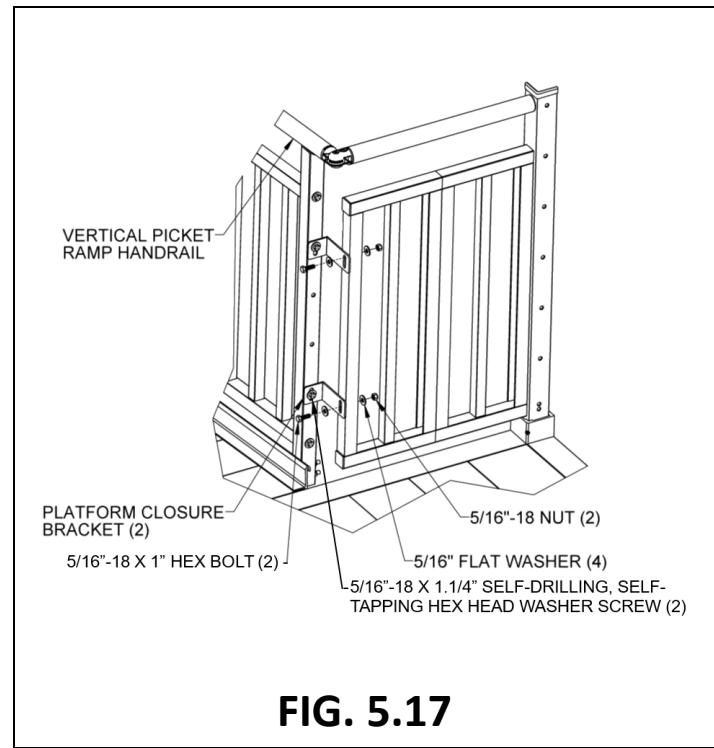

FIG. 5.17
- 5.6.6. Install a 5/16"-18 x 1" hex bolt through a 5/16" flat washer, the slot in the long leg of the closure bracket, and the holes in the Vertical Picket Closure. Use 5/16" flat washers and 5/16"-18 nuts to attach, then tighten all fasteners securely (FIG. 5.17).